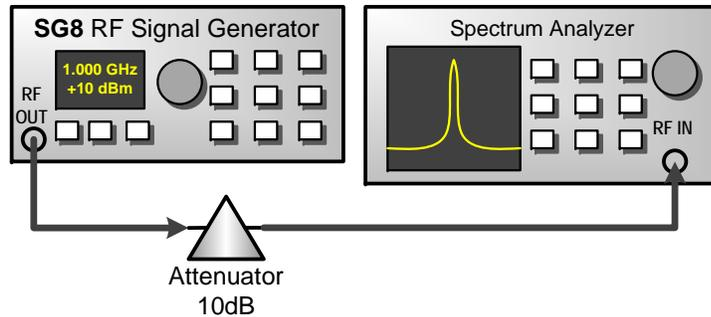

Figure 1: PLL lock test setup
Connect the instrument as shown in figure 1. Configure a spectrum analyzer as follows:
1. To measure frequency this way, connect the instruments as shown in figure 1.